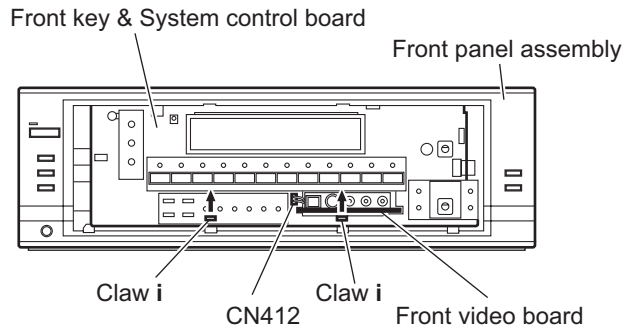

Fig.22
- (5) From the front side of the front panel assembly, disconnect the wire from the connector **CN412** on the front key & system control board, and take out the front video board. (See Fig.22)
- (6) Remove the claws **i** attaching the front key & system control board in the direction of the arrow and take out the front key & system control board. (See Fig.22)